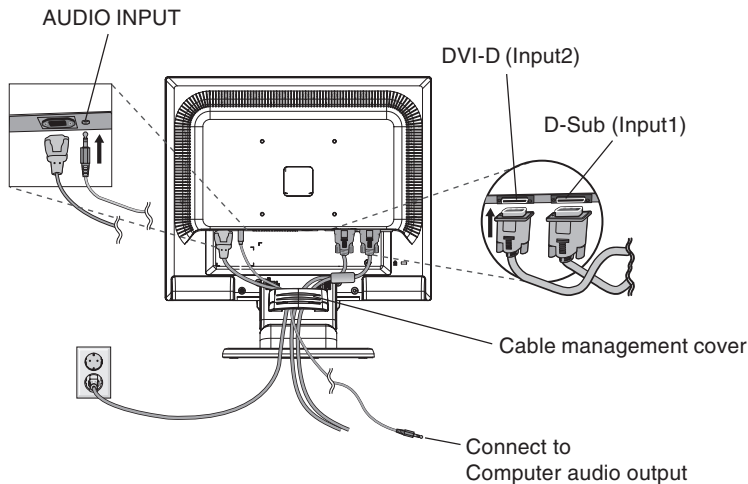
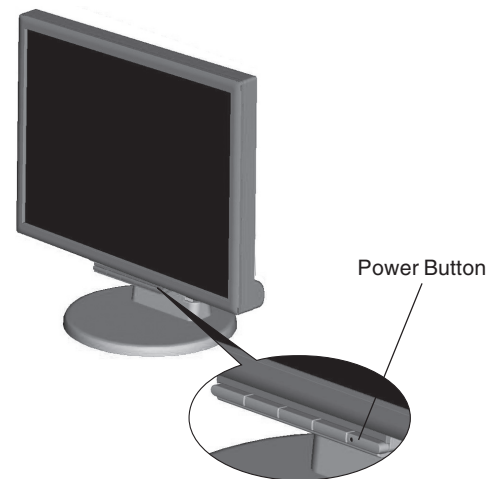

Figure B.1
Figure C.1
4. Connect all cables to the appropriate connector on the back of the monitor (**Figure B.1**). Connect the Headphone (not included) to the appropriate connector at the rear side of the monitor (**Figure C.1**).
5. Connect one end of the power cord to the monitor and the other end to the power outlet. Place the Video Signal Cable, Audio cable and power cord to the Cable management cover (**Figure B.1**).
6. Turn on the monitor with the front power button and the computer (**Figure C.1**).